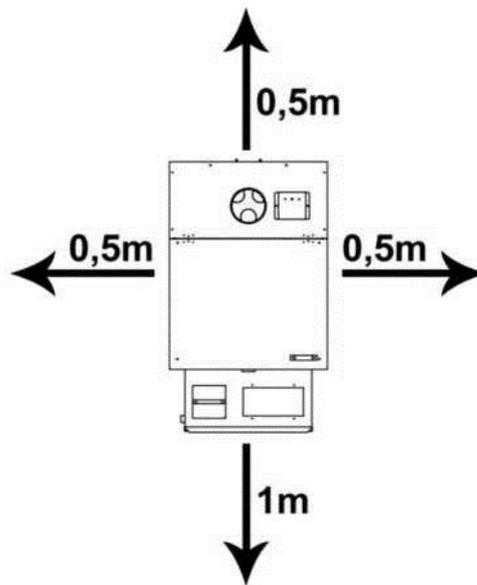

Fig. 2. Minimal safety space around the device.
- place the stove on a flat, concrete floor, in the spot allowing free space around the device, according to Fig. 2.,